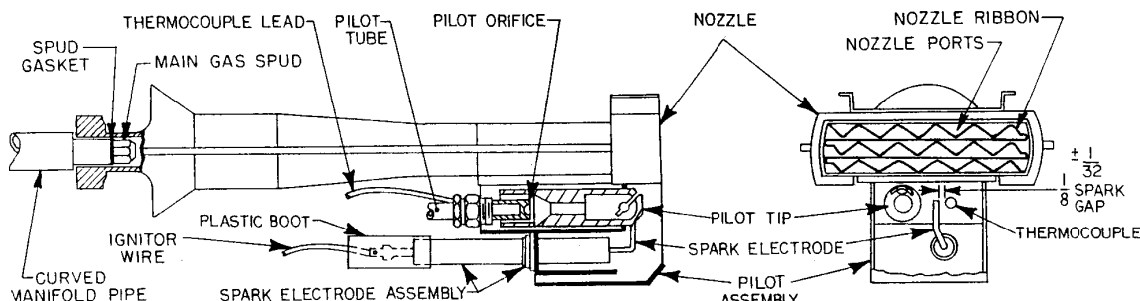

FIGURE 6 Nozzle and Pilot Assembly
- F. Defective ignitor, ignitor wires, spark rod or improper spark gap (see Figure 6).